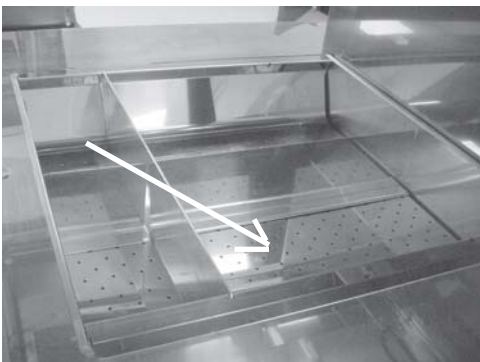

Figure 3
4. Set a shallow pan under the hot well drain and drain all water from the hot well. Figure 3. If the lime buildup is excessive, a liquid chemical lime remover may help to remove lime in the bottom of the hot well.